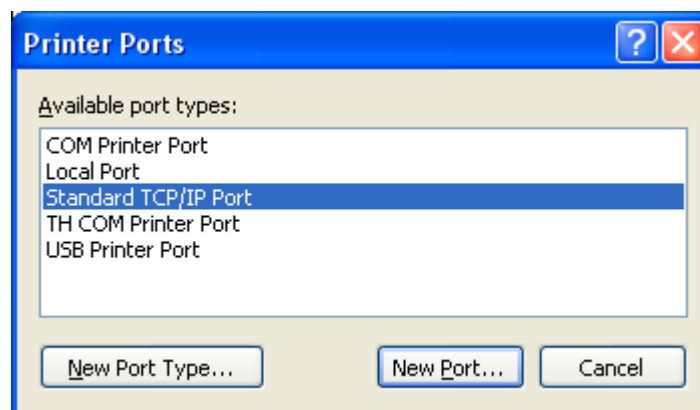

Figure 5.3.3 Printer Ports Window
- Select “Standard TCP/IP Port” in the list box of “Printer Port” and click “New Port...” button (shown as figure 5.3.3).